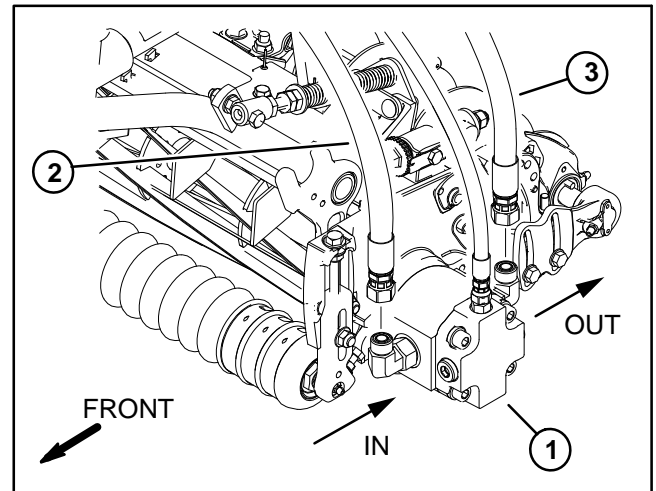

Figure 30
4. On the reel motor to be tested, thoroughly clean motor inlet and outlet fittings and hydraulic hoses (Fig. 30). Loosen and remove both hoses from fittings. Install a tee fitting with a 5000 PSI (350 bar) pressure gauge between the fitting and hose for both the motor inlet and outlet.